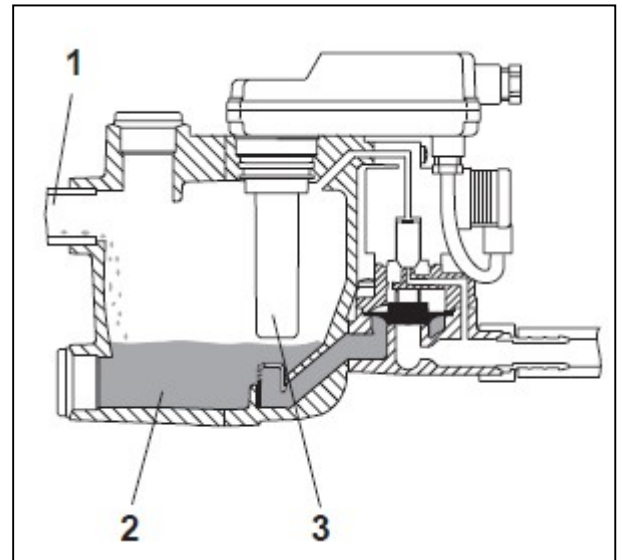

Fig.3
(2) DB1090D/3090D, DB3700 (Fig3,4)